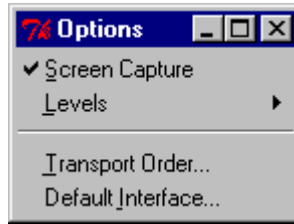

Figure 5-5. Options Drop-down Menu
In addition to changing the appearance of the interface, you can use the Options menu to toggle the screen capture feature on and off, set the global default level of verbose output, change the transport order, and select the default target interface. Figure 5-5 shows the Options drop-down menu:
1. *Click* **Options** in the menu bar. The Options drop-down menu shown in Figure 5-5 appears.
1. *Click* Options in the menu bar. The Options drop-down menu shown in Figure 5-5 appears.